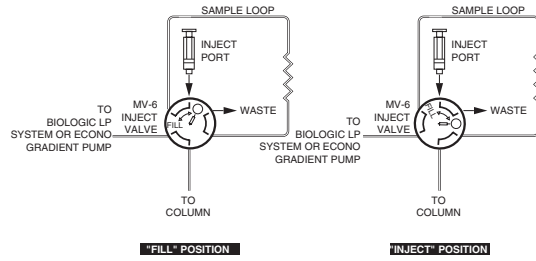

Fig. 2. Connecting to an MV-6 valve.
- To maximize gradient accuracy and to apply samples efficiently, install 1.6 mm ID tubing from the pump to the MV-6 sample inject valve (if available). If using the MV-6 sample inject valve, turn the knob counterclockwise as far as it will go so it corresponds to the printed diagram on the valve (see Figure 2).
- Connect the inlet of the cartridge to the male luer fitting on the MV-6 sample inject valve (see Figure 2). If not using the MV-6 sample inject valve, connect a barb to male luer fitting on the 1.6 mm ID tubing, then connect to the top of the female luer on the Bio-Scale Mini cartridge. For optimum performance, a cartridge should be mounted vertically with the arrow on the cartridge pointing downward (see Figure 3).